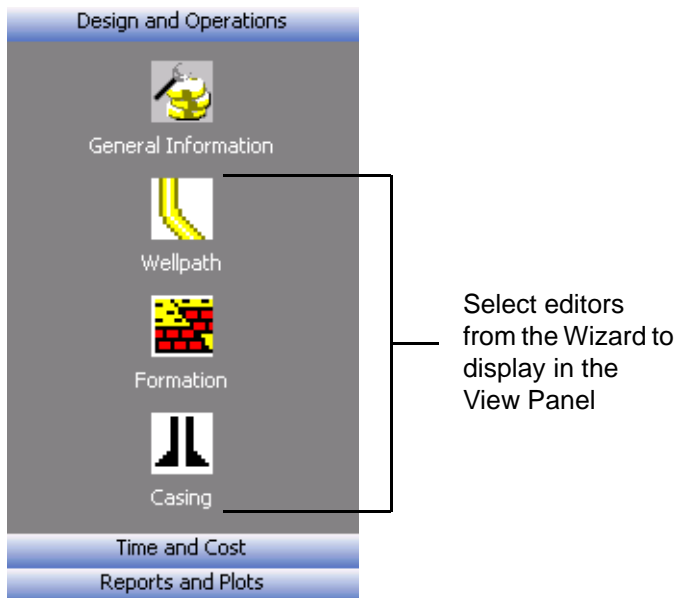

Figure 2: Well Cost Wizard - Design and Operations Bar
- From the Design and Operations bar, seen in Figure 2, click on the Wellpath icon () or other icons related to the editor you wish to open.